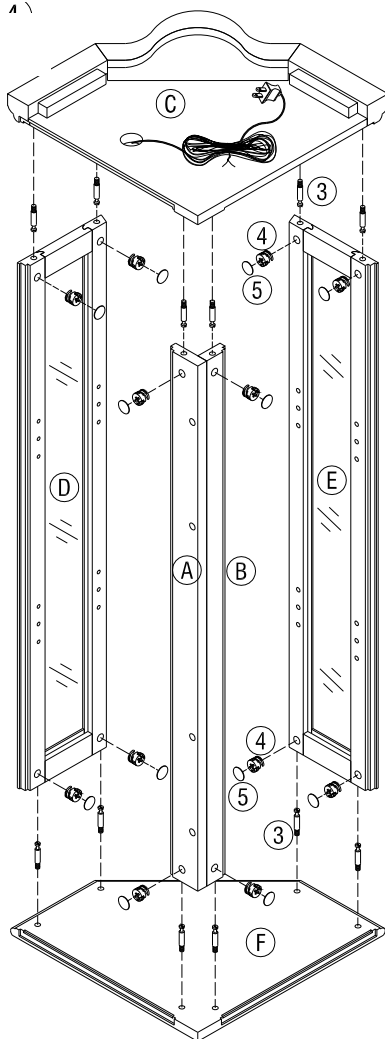

FIGURE 4
6. TIGHTEN CAM-BOLTS (3) INTO PREDRILLED HOLES ON UPSIDE OF UPPER SHELF (F) AND FIT INTO CORRESPONDING HOLES ON BOTTOM EDGES OF PARTS (A, B, D, E). INSERT CAM-LOCKS (4) INTO BIG HOLE ON PARTS (A, B, D, E) WITH SLOT FOR SCREWDRIVER FACING OUTWARD. ROTATE CAM-LOCKS (4) CLOCKWISE TO SECURE CAM-BOLTS (3). PUSH COVERS (5) INTO CAM-LOCKS (4). ASSEMBLE TOP PANEL (C) IN SAME MANNER. AS SHOWN IN FIGURE 4.